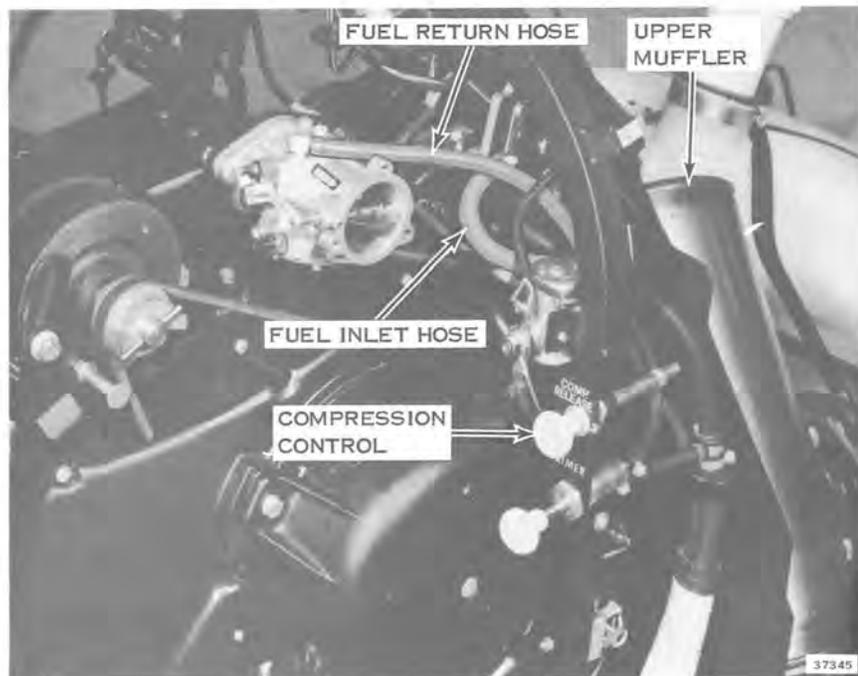

Figure 9-5
8. Disconnect inlet hose from fuel pump. See Figure 9-5.
9. Disconnect fuel return hose at carburetor. See Figure 9-5.
10. Disconnect compression release control from bracket. See Figure 9-5.
12. Remove two exhaust manifold to upper muffler screws. Remove two screws securing upper muffler to chassis. Remove upper muffler. See Figure 9-5.